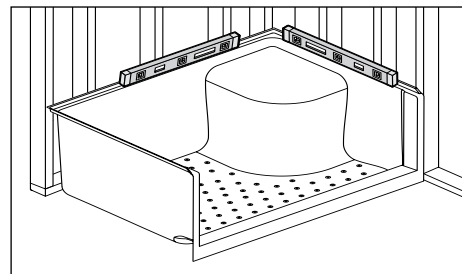

FIGURE 1. Assure base is level.
- Trial fit shower base in prepared alcove. With shower base sitting flat on sub-floor, check with level on top of shower base. Shower base should be level from front to back and side to side (Fig. 1). If shower base is not level use standard wood shims or leveling compound.